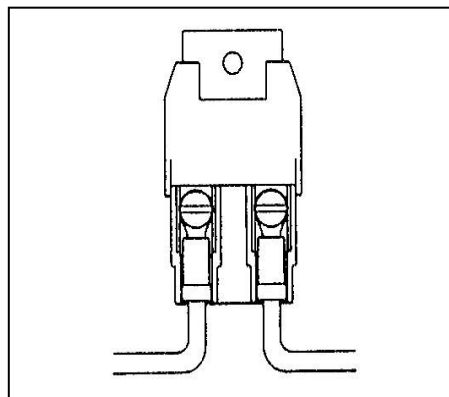

Figure 8.3 Maxi-Fuse
- A.** With crimping tool, attach Maxi-Fuse (**Figure 8.3**) onto end of ENGINE SECTION (single 10-gauge red wire #716) after having routed wire from the Fuse Panel to the Starter Solenoid. **DO NOT OMIT IT!**
- C.** Connect ENGINE SECTION A wire #719 (pur) to the Starter Solenoid Start (S) terminal.
- B.** With crimping tool, attach Maxi-Fuse (**Figure 8.3**) onto end of ENGINE SECTION (single 10-gauge red wire #716) AFTER having routed wire from the Fuse Panel to the Starter Relay. DO NOT OMIT IT!
- D.** Connect ENGINE SECTION A wire #719 (pur) to the Starter Relay Start (S) terminal.
- F.** A 14-gauge wire connected from the Starter Relay (I) terminal to the ignition coil side of the Ballast Resistor serves as a Ballast Resistor BYPASS during engine starting. If you are not using a Ballast Resistor (or resistive wire), this jumper is not necessary.
- B. With crimping tool, attach Maxi-Fuse (**Figure 8.3**) onto end of ENGINE SECTION (single 10-gauge red wire #716) AFTER having routed wire from the Fuse Panel to the Starter Relay.
- D. Connect ENGINE SECTION A wire #719 (pur) to the Starter Relay Start (S) terminal.
- F. A 14-gauge wire connected from the Starter Relay (I) terminal to the ignition coil side of the Ballast Resistor (or resistive wire) serves as a Ballast Resistor BYPASS during engine starting. If you are not using a Ballast Resistor (or resistive wire), this jumper is not necessary.
- 10.2.1** With crimping tool, attach Maxi-Fuse (**Figure 8.3**) onto end of ENGINE SECTION (single 10-gauge red wire #716) AFTER having routed wire (with or without ammeter) from the Fuse Panel to the Starter Relay. DO NOT OMIT IT!